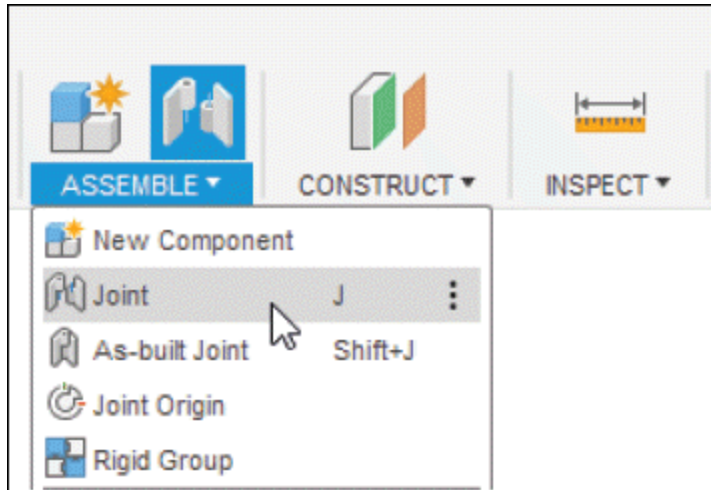
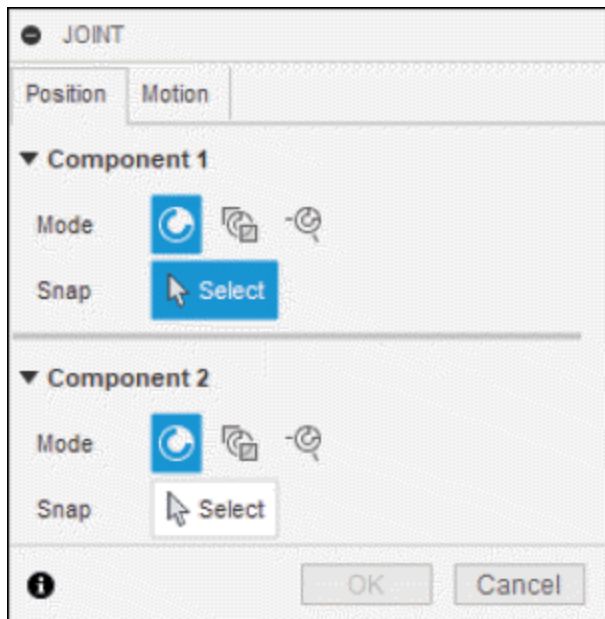

Figure-10. Joint tool
Figure-11. JOINT dialog box
- Click on the **Joint** tool of **ASSEMBLE** drop-down from **Toolbar**; refer to Figure-10. The **JOINT** dialog box will be displayed; refer to Figure-11.